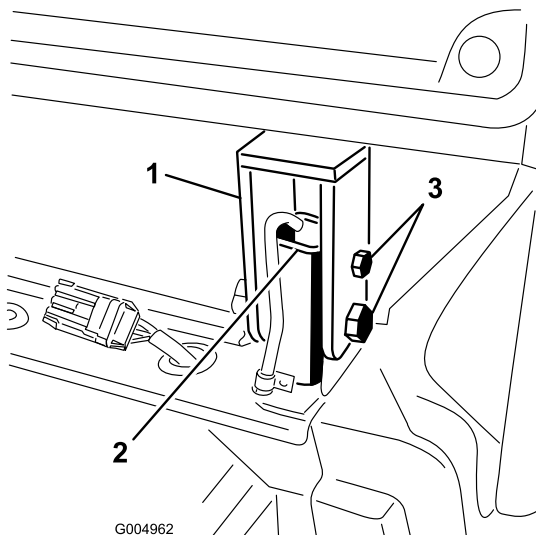

Figure 83
25. Remove the bolts and nuts securing rear cab mounts to the ROPS posts (Figure 83). Adjust the floor jack if the bolts are binding and difficult to remove.